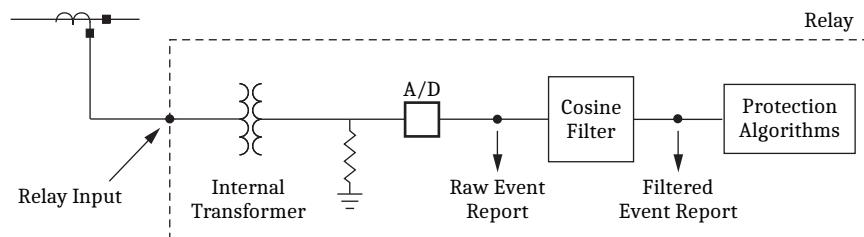

Figure 31 Simplified Signal Processing in an SEL Relay
As illustrated in *Figure 31*, current measured by a CT is brought to the relay inputs and stepped down by an internal transformer to a milliamperes-level signal. This signal is then converted into a millivolt-level signal that the relay circuit boards can handle. Next, the voltage is read by an analog-to-digital converter that converts the analog signal to digital samples. These samples are then passed through a digital cosine filter that calculates an equivalent 60 Hz phasor. The process is similar for voltages. Most relay algorithms use these phasors to perform their protection functions.
- **Filtered event reports:** Filtered event reports are captured after the cosine filter in *Figure 31*. The filtered data contains only the fundamental (60 Hz) quantities and is clean of any harmonics or DC offset. The filtered event data suffices for most event reporting needs because these are the signals that most relay protection algorithms use.
- Raw event reports: Raw event reports are captured before the cosine filter in *Figure 31* and contain data that closely match the actual signals that occur on the power system. The waveforms contain some higher harmonics and DC offset. Raw event reports show conditions such as CT saturation, inrush, decaying DC offset, power system harmonics, and input contact bounce.